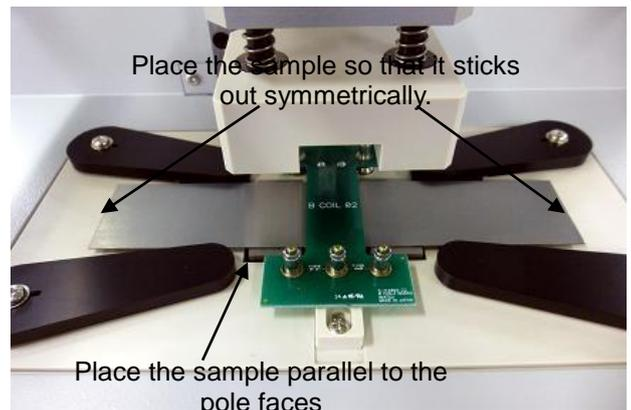

Fig. 4-13 Setting a sample
- (1) Remove dust from the pole faces of the measuring yoke with the provided blower brush. Make sure no dust or dirt is on the sample. Remove all the dust and dirt.
- (2) Slide the sample through the installed B coil and place the left and right sides of the sample on the pole faces of the measuring yoke, as shown in Fig. 4-13.